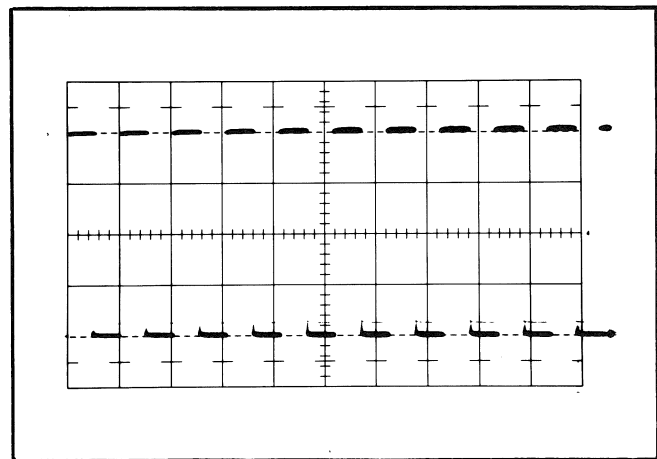

Fig. 5-5. Pulse repetition rate, MED. As in Fig. 5-4, 10 cycles of the waveform appear.
- e. Check—9 to 15 cycles per 10 cm. See Fig. 5-5.